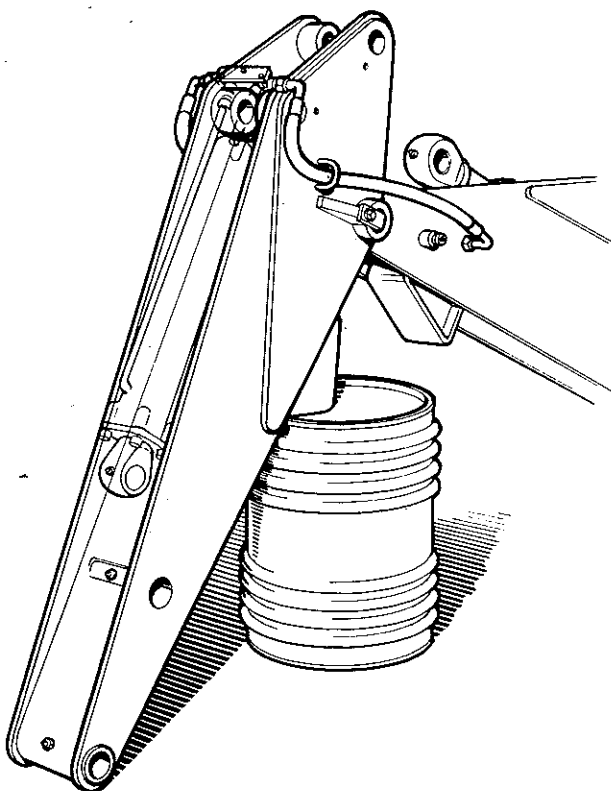

Fig. 1
6. Dipper arm. Support. Using a 40 gallon drum, support the dipper arm under the clapper plate, with the end of the dipper touching the ground (fig. 1).
9. Bucket ram hoses. Disconnect. (fig. 1). Disconnect the bucket hose connections at the rigid pipes on the boom. Fit blanking caps.